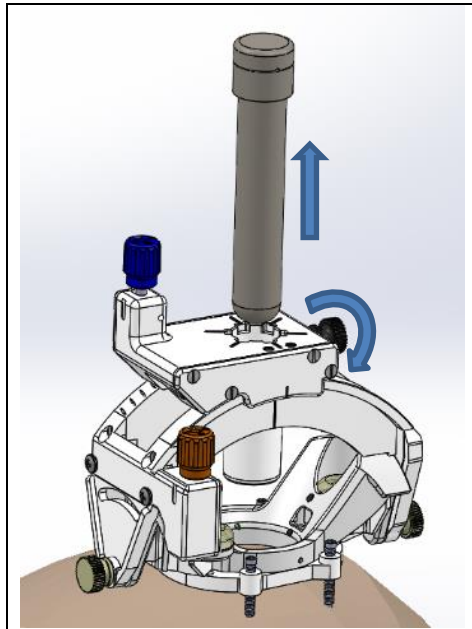

Figure 21: Removing the Targeting Stem from the SMARTFrame Array tower
10. Once the roll lock screws are secured, remove the Targeting Stem by unlocking the tower side thumb screw and pulling the stem out. **See Figure 21.**